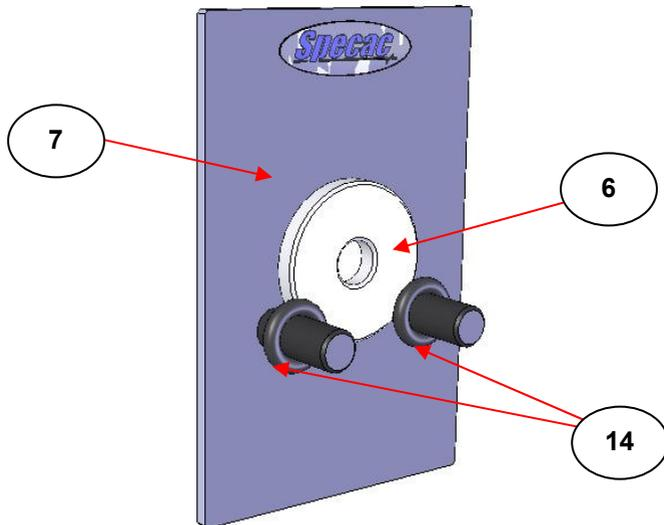

Fig 7. 7mm Pellet Die Ring Holder on 3" x 2" Slide Mount
The complete die ring holder (6) with KBr pellet is now placed into an infra red spectrometer system by use of the 3" x 2" slide mount holder (P/N GS03960) (6). The die ring holder (6) rests simply on the two support rods of the 3" x 2" slide mount holder (7) and is held tight against the 3" x 2" slide plate by compression of the two O-rings (14) supplied having been slid over the support rods as shown. (See Fig 7.)